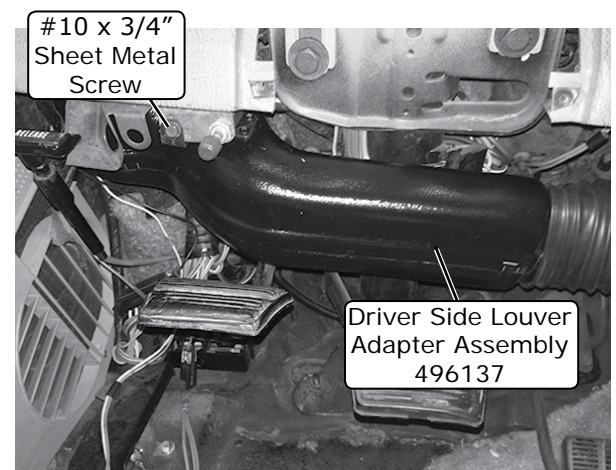

Figure 20
1. Using the supplied tie wraps and a #10 x 3/4" sheet metal screw, install the driver side louver adapter assembly as shown in Figure 20, below. **NOTE: Use the tie wraps to raise and secure the louver adapter assembly.**